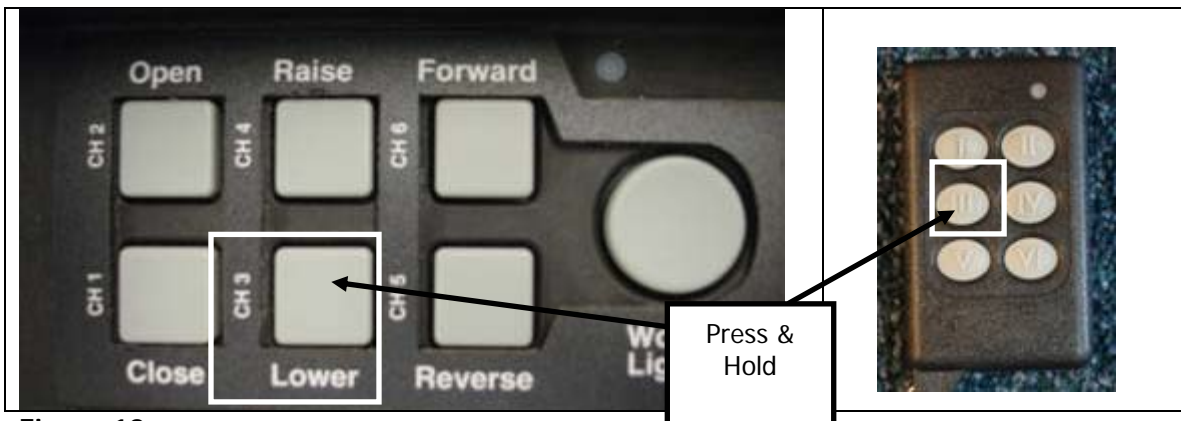

Figure 12
- 5) Lower tower by pressing & holding button 3 on the control box or the key fob (see Fig. 12).